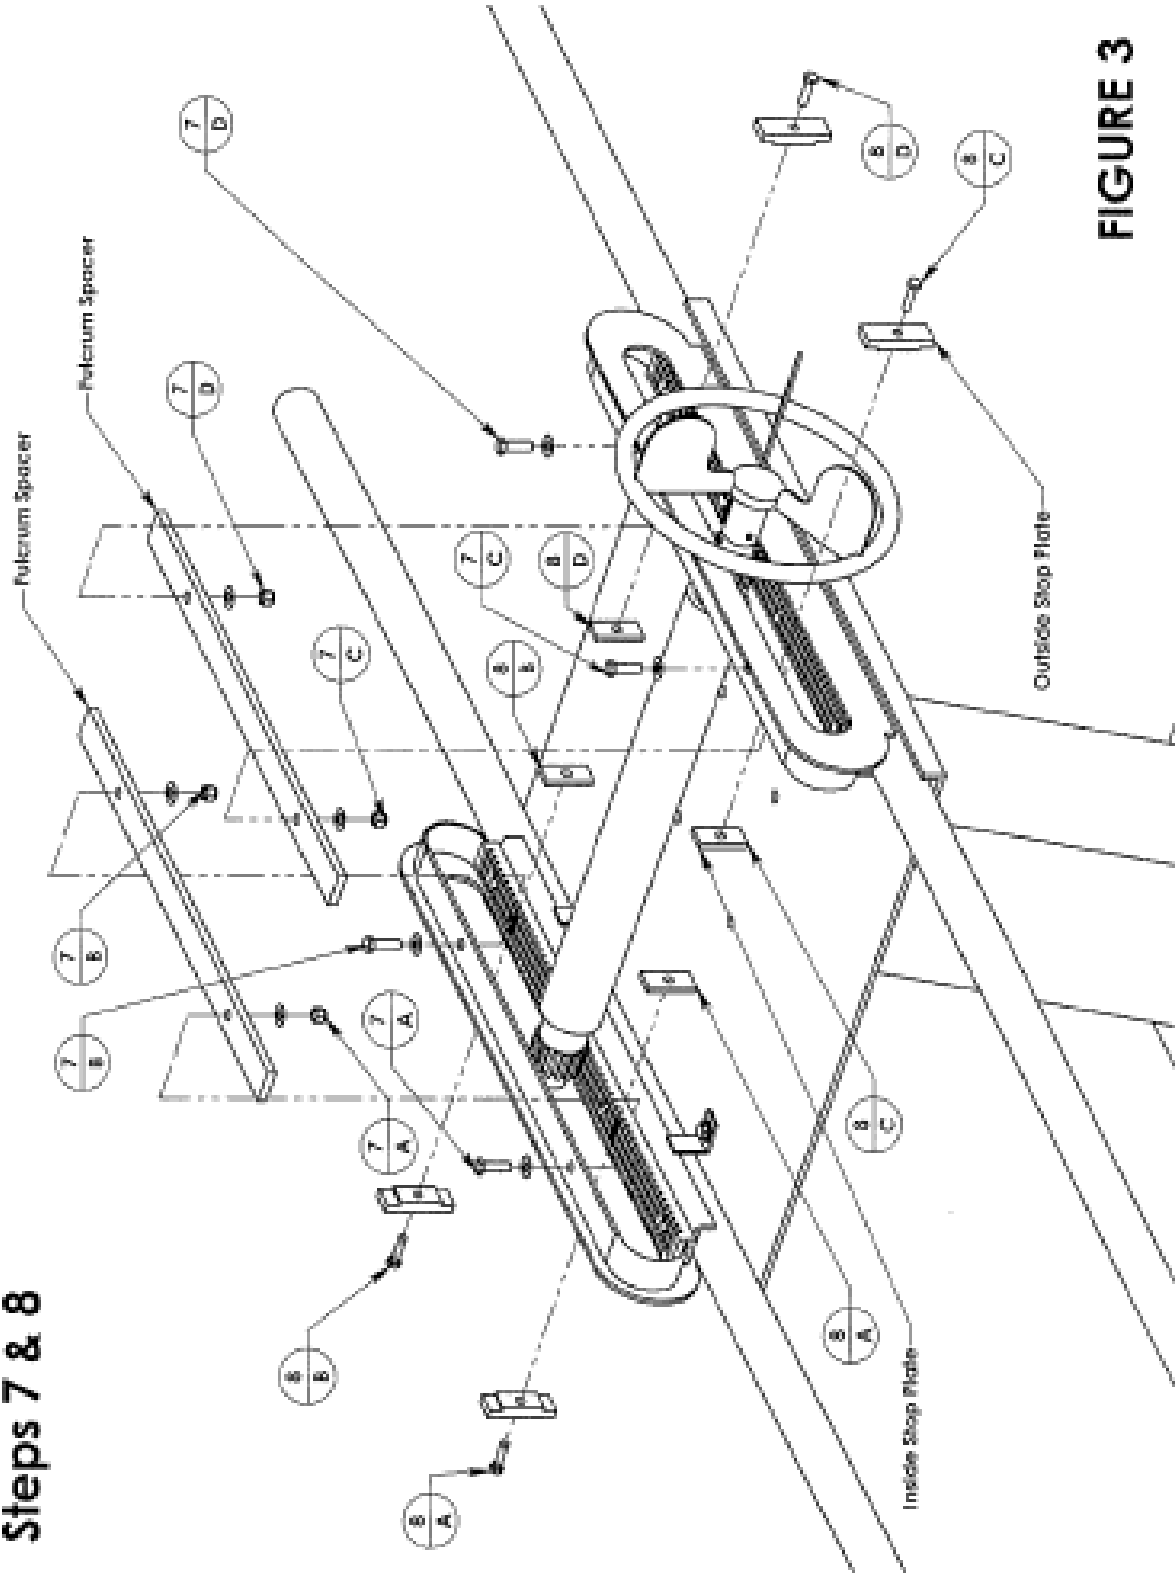

FIGURE 3
- 7) **INSTALL SPACERS * [Figure 3, 7A to 7D]**